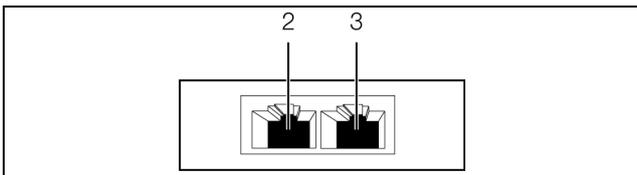

Fig. 10: Rear of the vandalism sensor
- Use a CAN bus connection cable to connect the vandalism sensor to a CAN bus interface on the CMC III Processing Unit or the neighbouring component on the CAN bus (fig. 10, item 2).
- If necessary, connect another component (e.g. another sensor type) to the second, free CAN bus interface of the vandalism sensor (fig. 10, item 3).